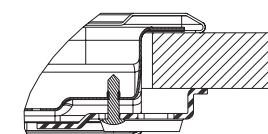

Fig. 1
3. Fit the brackets into the relevant bores shown by the arrow and fasten them by means of their screws in accordance with the thickness of the work top. (see fig. 1).
- After the electrical connection, insert the hob from the above and secure on the fixing brackets as shown in figure 1.